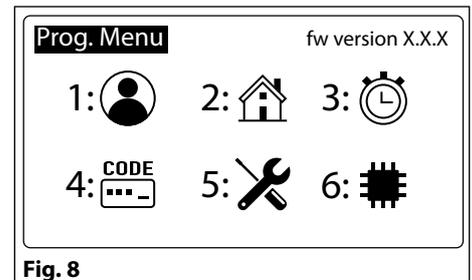

Fig. 8
From Programming menu (Fig. 8):
- from the main programming (**Fig. 8**), press "1" to enter the user menu;
- from the main Programming menu (**Fig. 8**), press "1" to enter the user menu;